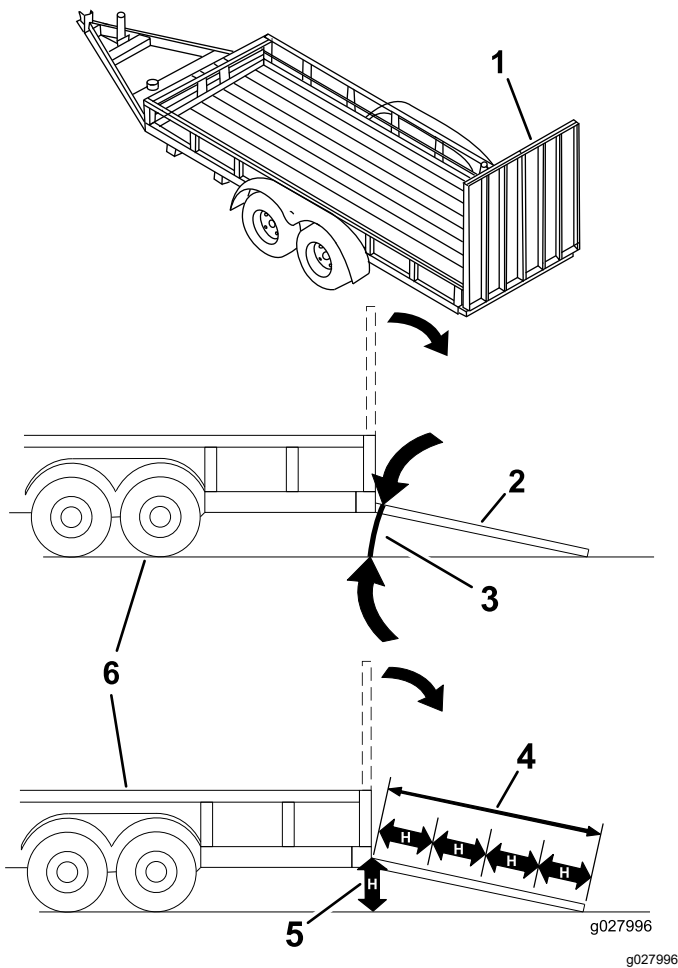

Figure 33
**Loading a machine onto a trailer or truck increases the possibility of tip-over and could cause serious injury or death (Figure 33).**
3. Lower the ramp, ensuring that the angle between the ramp and the ground does not exceed 15 degrees (Figure 33).
1. Lower the ramp, ensuring that the angle between the ramp and the ground does not exceed 15 degrees (Figure 33).